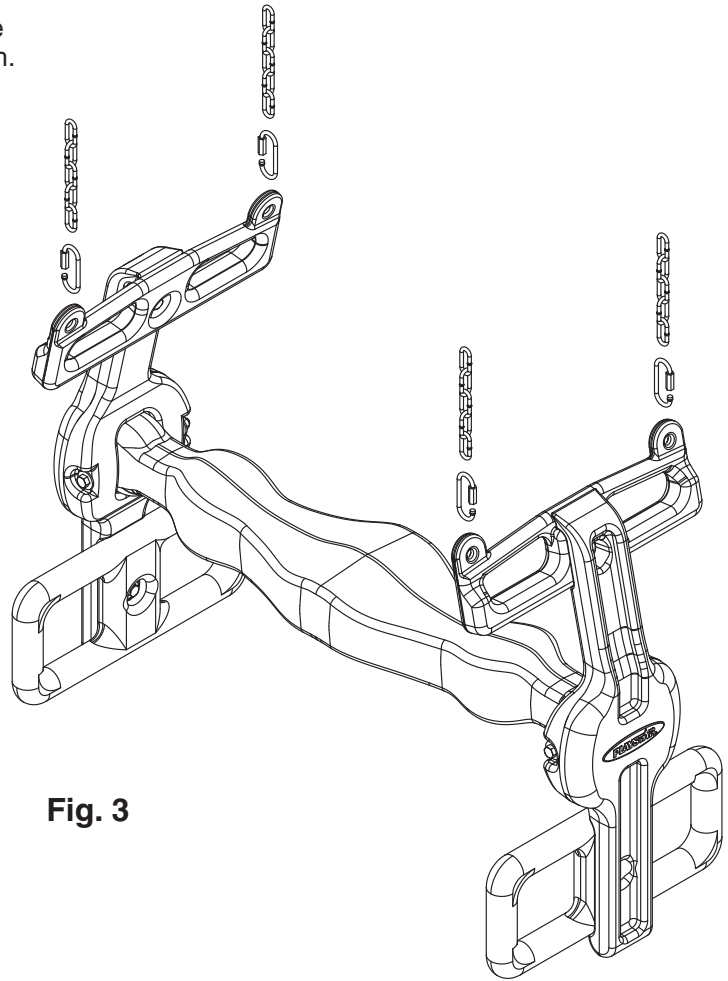

Fig. 3
4. Mark over 16" from center of bolts. Repeat Steps 1 through 3 for the second assembly. (Fig. 3)
4. Connect a length of chain to each hanger of handle using one quick-link. Tighten with adjustable wrench. **(Fig. 3)**
5. Lift Air Rider into position and hook chains onto the swing hangers **(Fig. 3)**